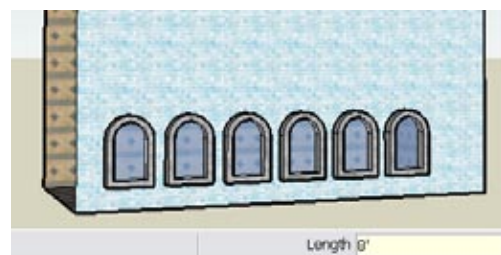

Figure 1-7
- To make the windows 8 feet apart, type $8'$ and press Enter. (If your units are Architectural, you need to include the apostrophe for the foot symbol.) As you can see in Figure 1-7, this looks too crowded.